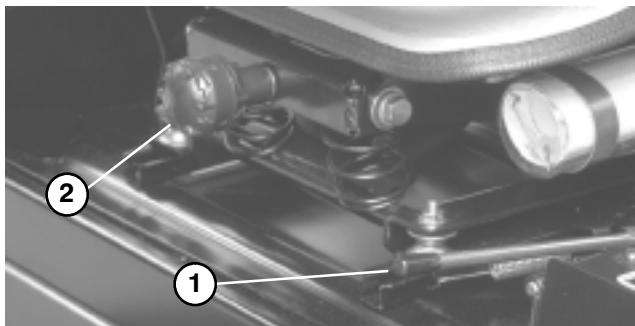

Figure 22
**Seat** (Fig. 22) – Seat adjusting lever allows 4 inch fore and aft adjustment. Seat adjusting knob adjusts seat for operators weight. To adjust seat fore and aft, pull lever on left side of seat assembly outward. After moving seat to desired location, release lever to lock seat into position. To adjust for operators weight, turn spring tension knob; clockwise to increase tension, counterclockwise to decrease spring tension.